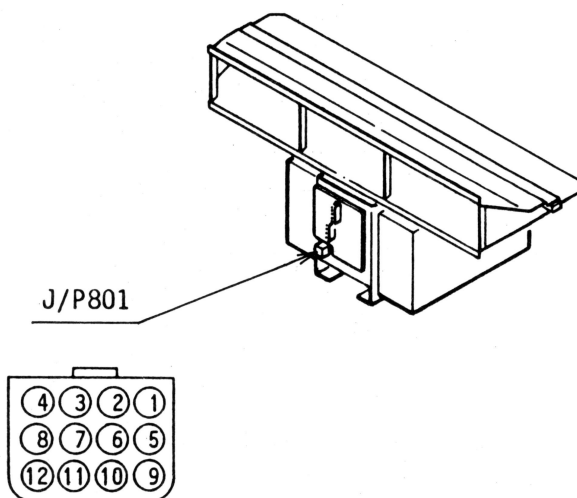

Fig.2-12 Scanner Unit
- 1) Connect a multimeter, set to 10VDC range, between P801 #3(+) and #5(-). See Fig.2-12.